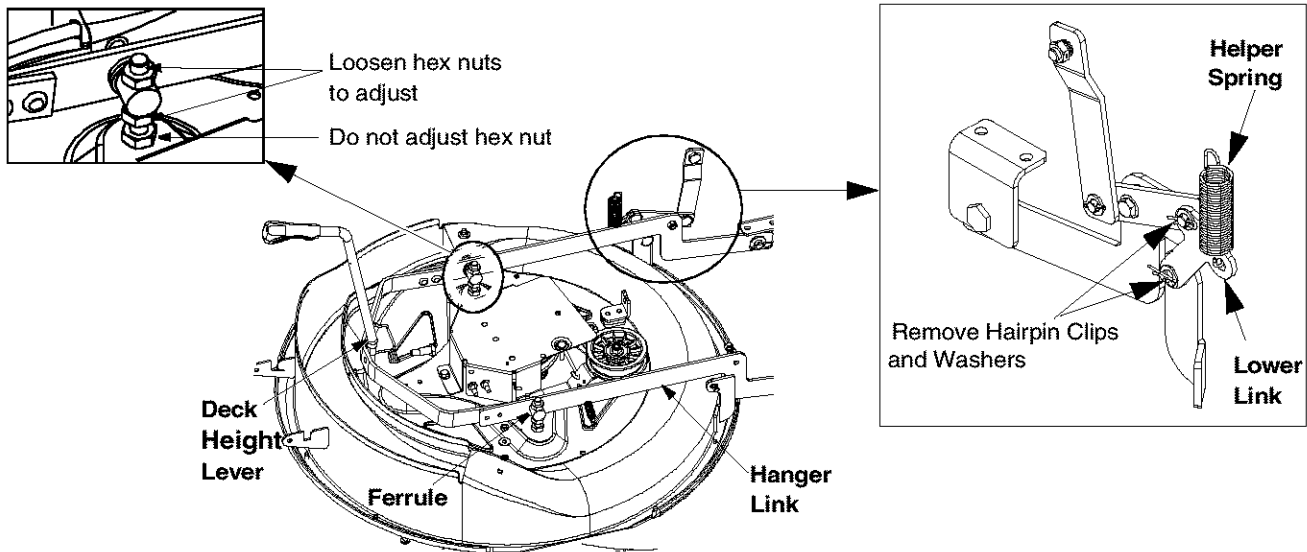

Figure 15
- Completely loosen, but do not remove, the top hex nut out of the three hex nuts that hold the hex bolt and the ferrule on the deck hanger link assembly. See Figure 15.
- Reattach the lower links as shown in Figure 15 inset.
- Thread the middle nut up against the base of the ferrule. See Figure 15.